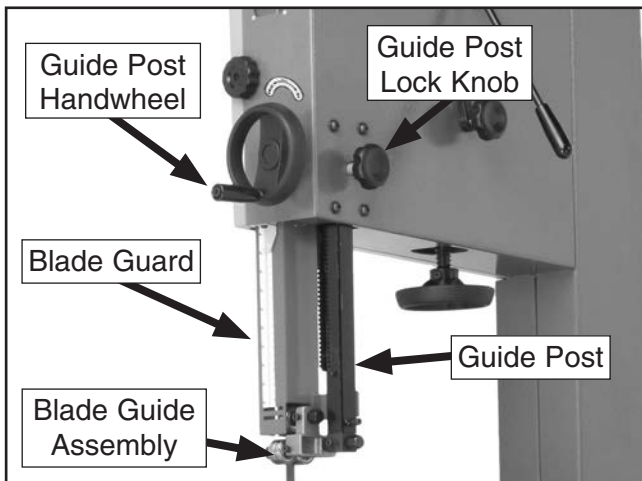

Figure 65. Guide post controls.
3. Loosen the guide post lock knob shown in **Figure 65**.